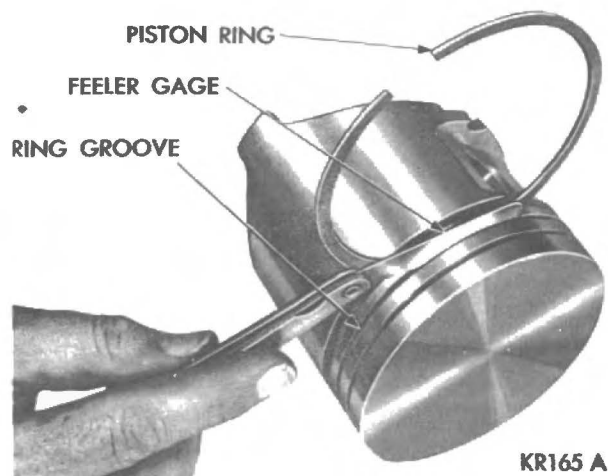

Fig. 32 - Measuring piston ring clearance.
(3) Measure the side clearance between piston ring and ring land (see Fig. 32). The clearance should be .0015" to .004" for the top compression ring and the intermediate ring, and .009" for the oil control ring.